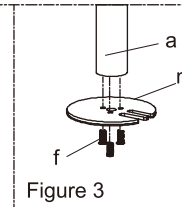

Figure 3
1. Install the Grommet Base Plate(m) to the Pole(a) using 3 pcs M5x16 Bolts(f), and tighten using the Allen Key(o), see Figure 3.